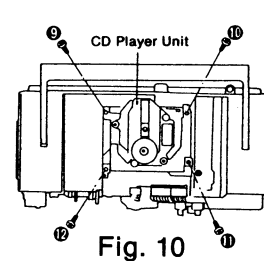

Fig. 10
- Remove the 4 screws (9~12), and then remove the CD player unit. (See Fig. 10)